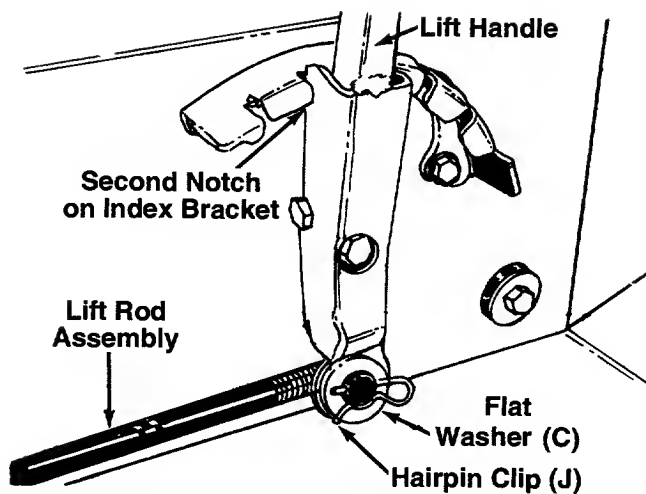

FIGURE 11.
21. Move the lift lever on the tractor to the second notch on the index bracket as shown in figure 11.
22. Place a board under the tines. Thread the ferrule onto or off of the lift rod until it lines up with the bottom hole in the lift handle. Secure ferrule to lift handle using flat washer (C) and hairpin clip (J). See figure 11.